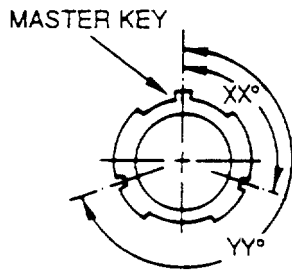

Figure 8. Polarization
13. **POLARIZATION.** Polarization (Figure 8) is accomplished by use of a key and keyway or series of keys and keyways. One method has a slot or keyway cut into the plug shell with a corresponding protrusion or key on the inside of the receptacle shell. The other method is the opposite. The keys, usually one large and four small, are on the outside diameter of the plug and corresponding keyways are recessed into the inside diameter of the receptacle. Further polarization can be achieved by rotation of the smaller keys and keyways relative to the large ones. In some series, the insert itself can be rotated to allow for alternate insert positions.